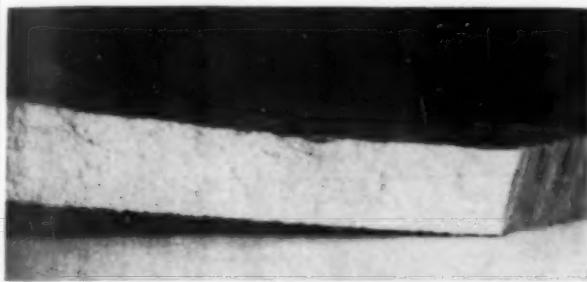

Fig. 11—Fracture of a Casting With a Good Structure; Natural Size
**Large Grain Size**—The grain size in magnesium castings is usually so small that it cannot be seen without a microscope. A fracture test can be used to advantage, however; a smooth silky fracture, as shown in Fig. 11, reveals a fine grain size. Macro-etching can be used, too; if the grain size cannot be resolved, as in Fig. 12, the structure is good.